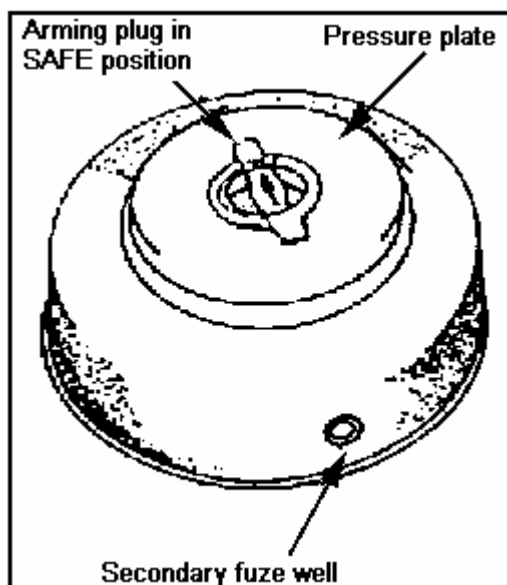

Figure 052-192-1105-1
**Install an M15 Antitank (AT) Mine Using the M624 Fuse**
1. Inspect the mine (Figure 052-192-1105-1).